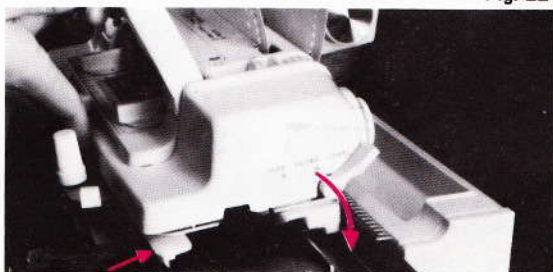

Fig. 225
3. Lift carriage off (fig. 225). Correct the knitting using transfer tools if necessary.